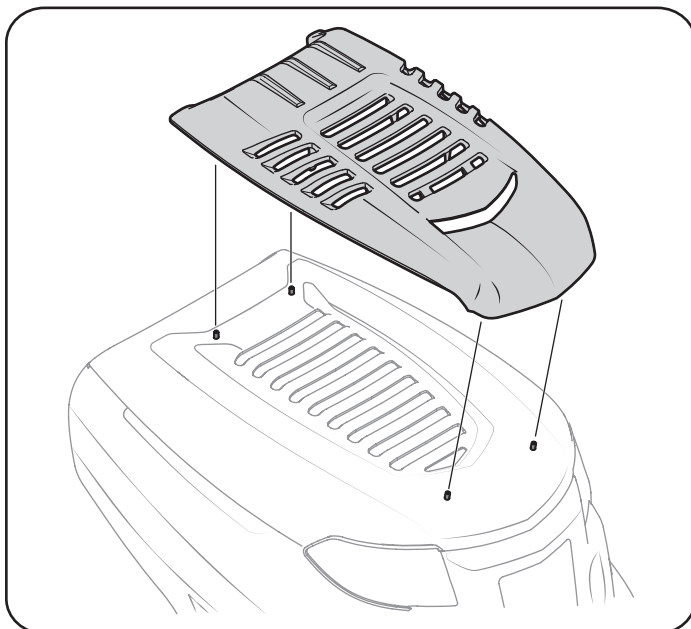

Figure 11
- Snap the hood scoop into place using the hood as your guide. See Figure 11.